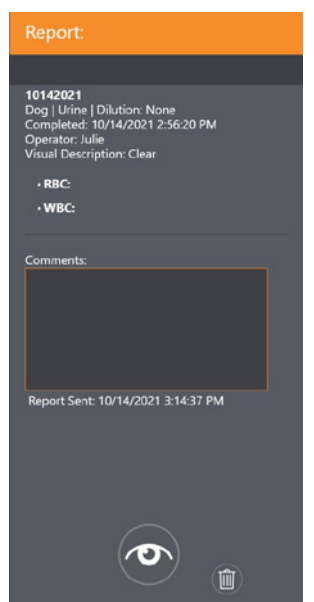

Figure 13
2. To select a patient, touch the the patient's name and then Touch  to open the saved report. Figure 13